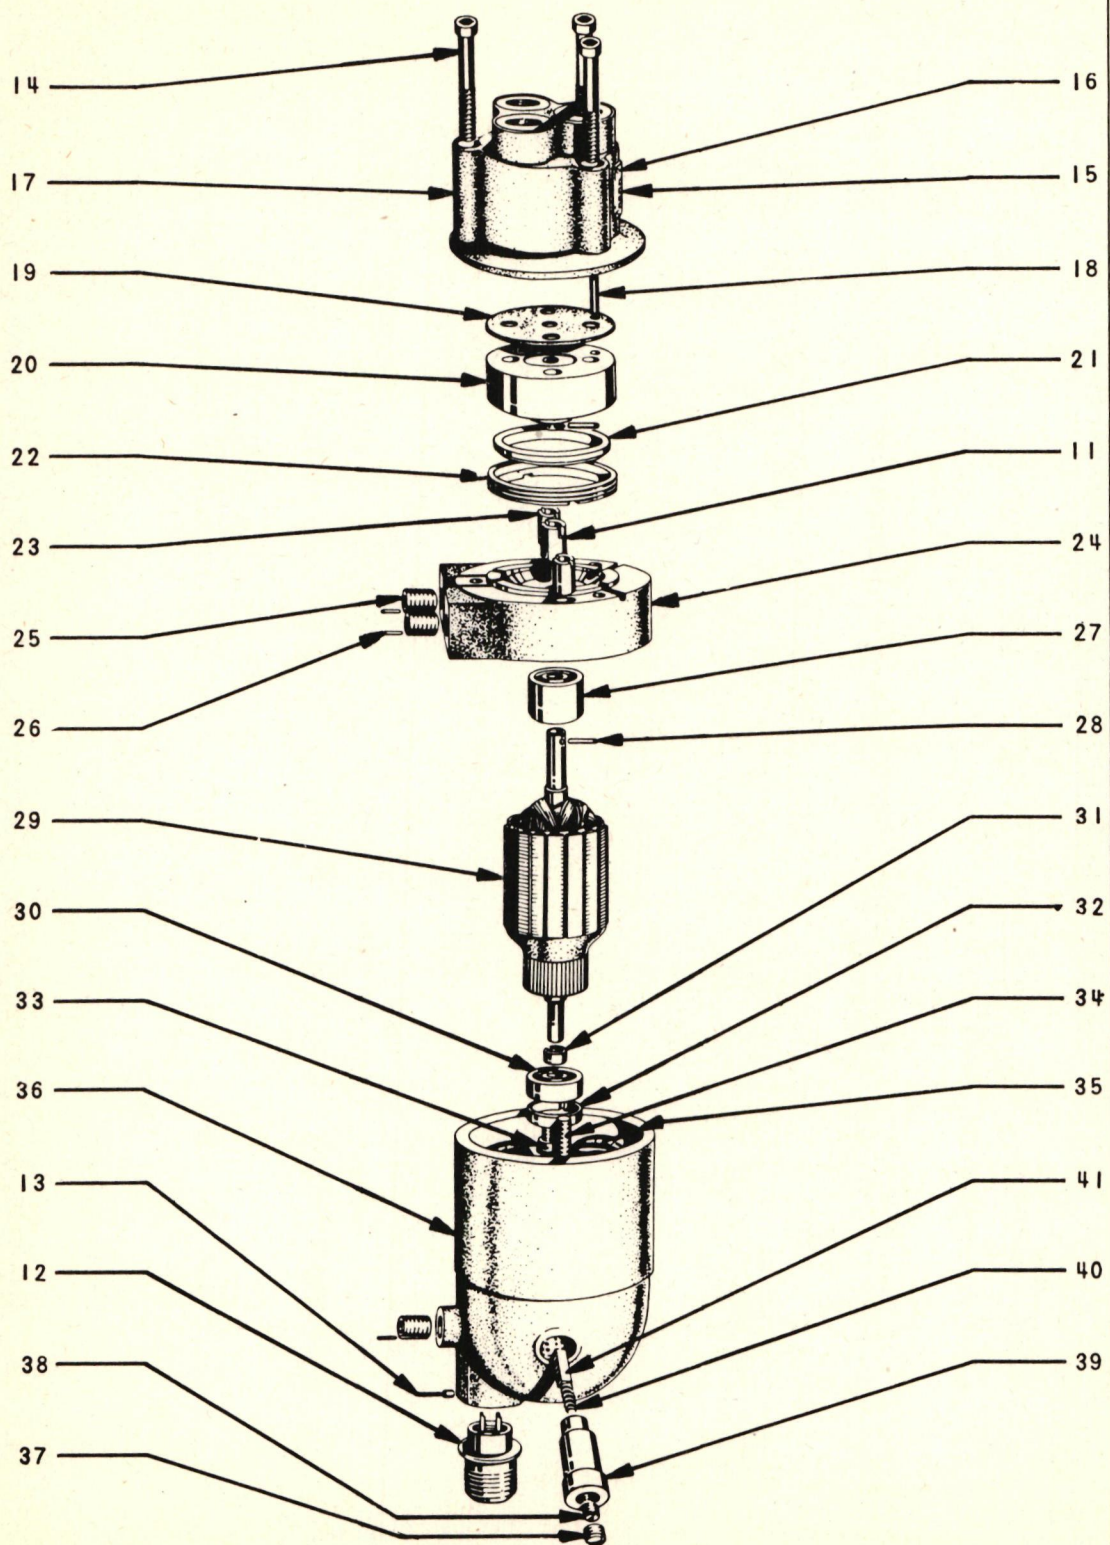

Figure 2-VI - Anti-Icer Pump
a. Description.- Details of the anti-icer pump are shown on fig. 2-IV. The complete assembly is Adel part No. D8300-2-*, consisting of pump assembly D8310-1, motor assembly G8305-2, and several miscellaneous parts as shown on the drawing. The motor and pump assemblies are held together by three Allen-head cap screws. (*See note, page 5, this section.)